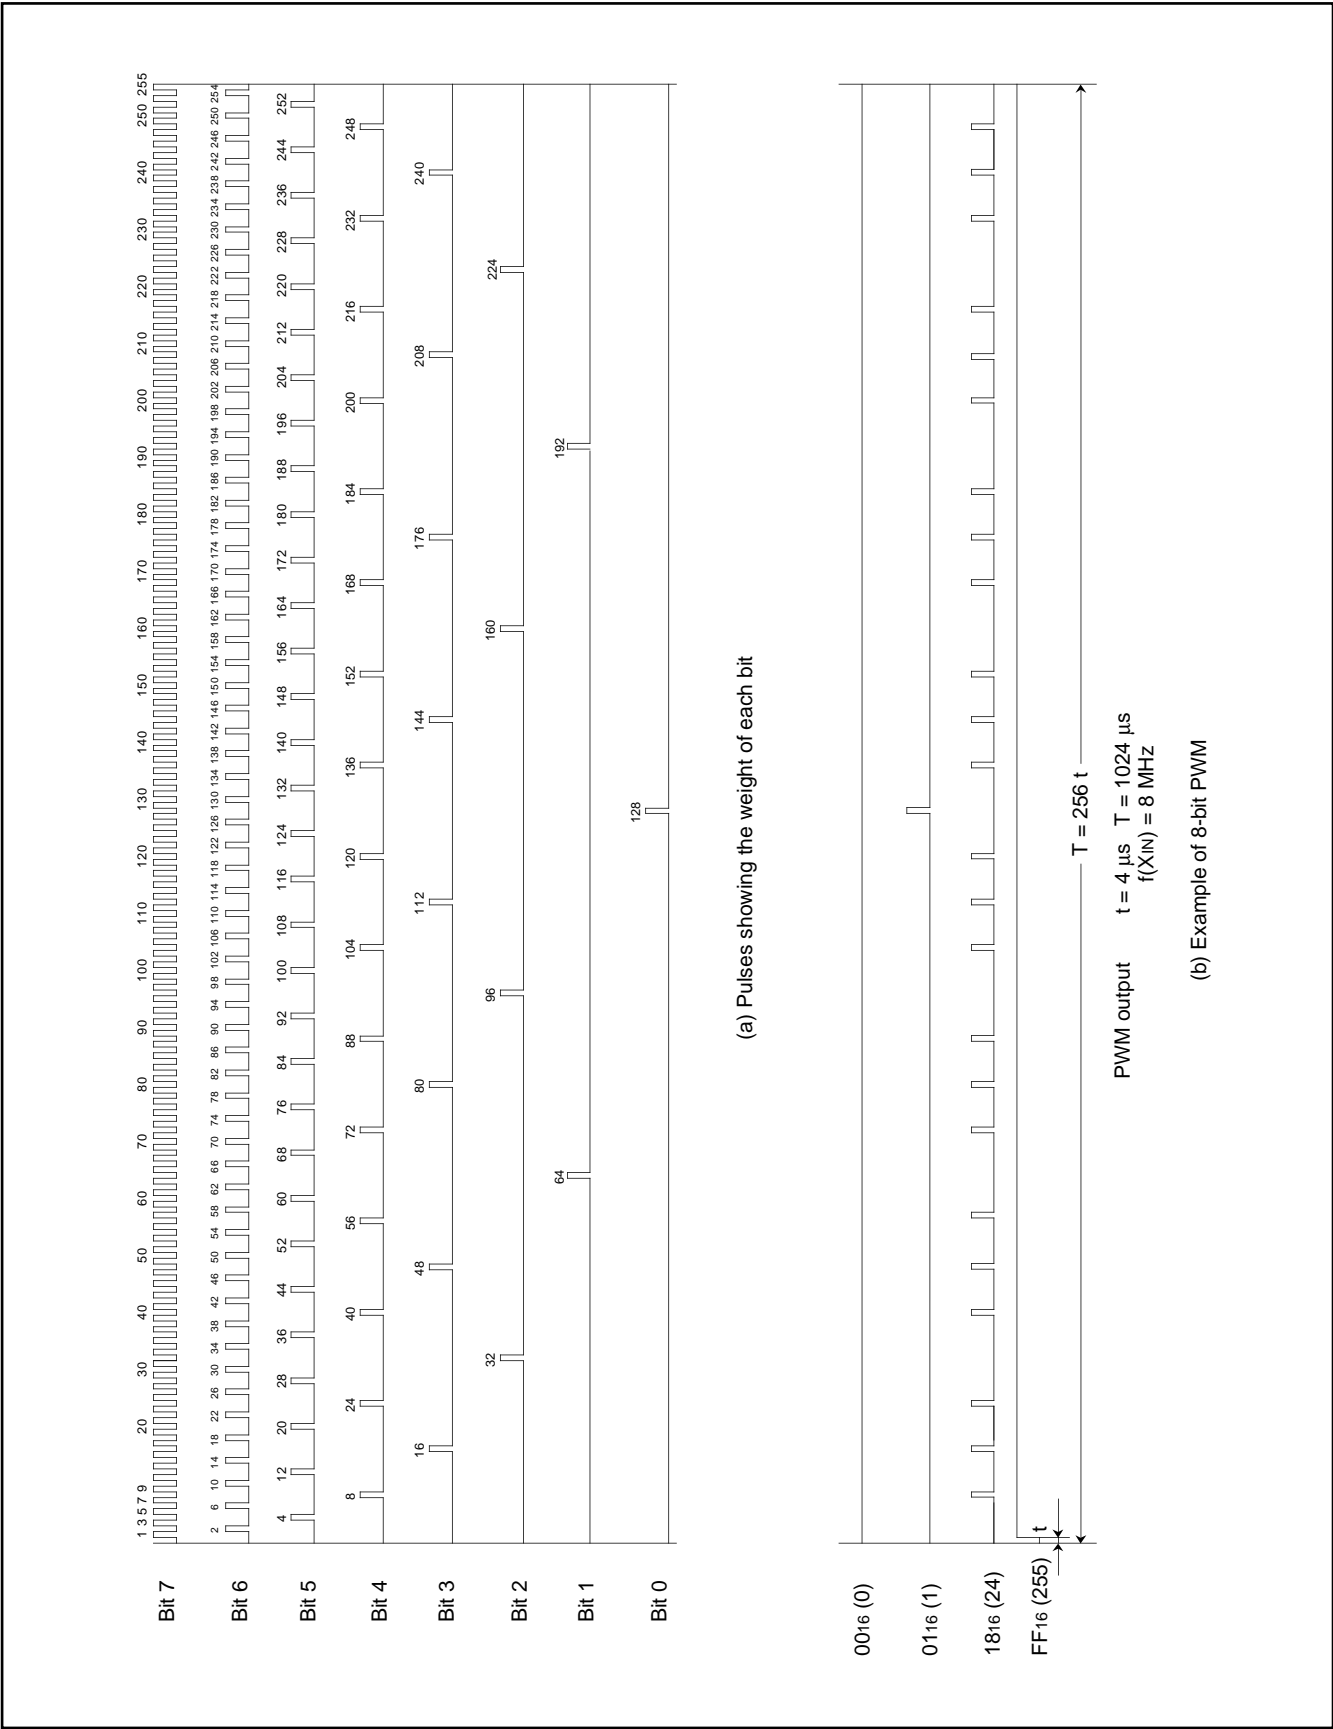

Fig. 26. 8-bit PWM timing
Figure 26 shows the 8-bit PWM timing. One cycle (T) is composed of $256 (2^8)$ segments. The 8 kinds of pulses relative to the weight of each bit (bits 0 to 7) are output inside the circuit during 1 cycle. Refer to Figure 26 (a). The 8-bit PWM outputs waveform performed a OR operation of pulses corresponding to the contents of bits 0 to 7 of the 8-bit PWM register. Several examples are shown in Figure 26 (b). 256 kinds of output ("H" level area: $0/256$ to $255/256$) are selected by changing the contents of the PWM register. A length of entirely "H" output cannot be output, i.e. $256/256$.
(4) Operating of 14-bit PWM